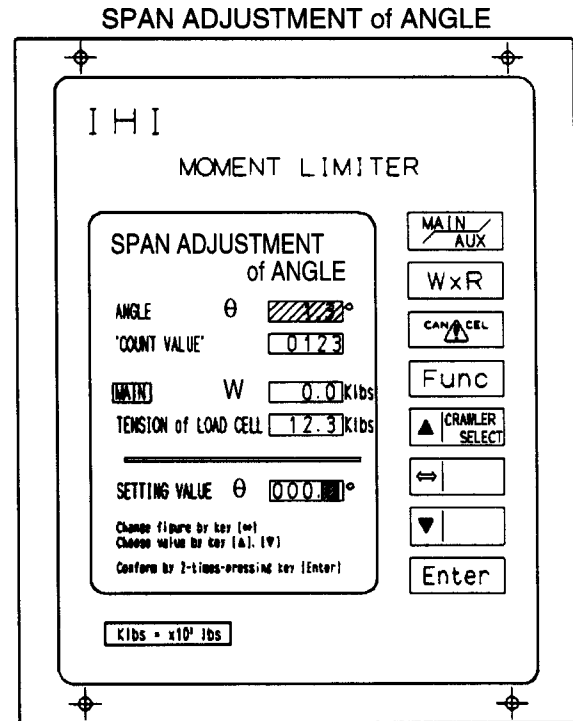

Figure 6
- 6.) Bring the SPAN ADJUSTMENT OF ANGLE screen up on the Moment Limiter (see Figure 6).